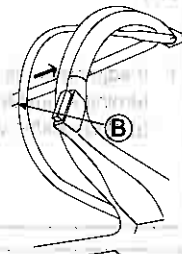

Fig. 18.
4 Pull Drive clutch lever (B) toward you to start mowing. (See Fig. 18.)